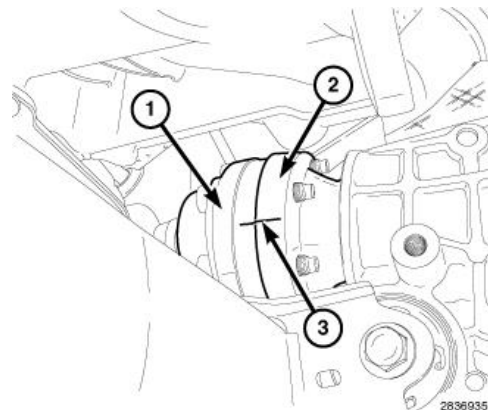

Figure 14 – Driveshaft & Pinion Flange
- 27. Mark (3) the front driveshaft (1) and pinion flange (2) for installation reference if applicable (Figure 14).
- 28. Remove the driveshaft (1) from the pinion flange (2) if applicable (Figure 14).
20. Install the driveshaft with reference marks aligned (Figure 14).